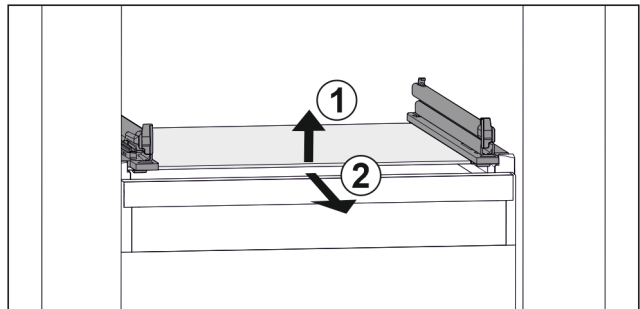

Fig. 87 Example illustration of glass shelf
- ▶ Lift glass shelf at the front. Fig. 87 (1)
- ▶ Take out glass shelf to the front. Fig. 87 (2)